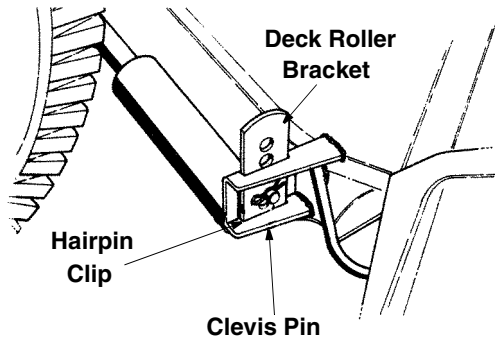

Figure 10
- Units with 50" Decks:** Remove the clevis pins and hairpin clips from the roller assembly. Slide the roller assembly between the rear wheels and the deck. Insert the deck roller brackets up through the brackets provided on the rear of the deck. It may be necessary to rotate the deck roller brackets 360° to clear the roll pin stop. Attach with clevis pins and hairpin clips just removed, using the lowest hole location on each side of the deck. See Figure 10.